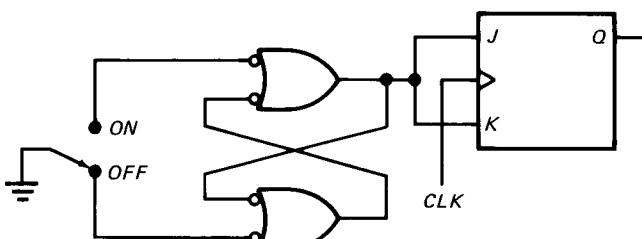

Fig. 7-22
- 7-8. The clock has a frequency of 1 MHz in Fig. 7-22. With the switch in the *OFF* position, what is the frequency of the *Q* output? If the switch is thrown to the *ON* position, what is the frequency of the *Q* output?